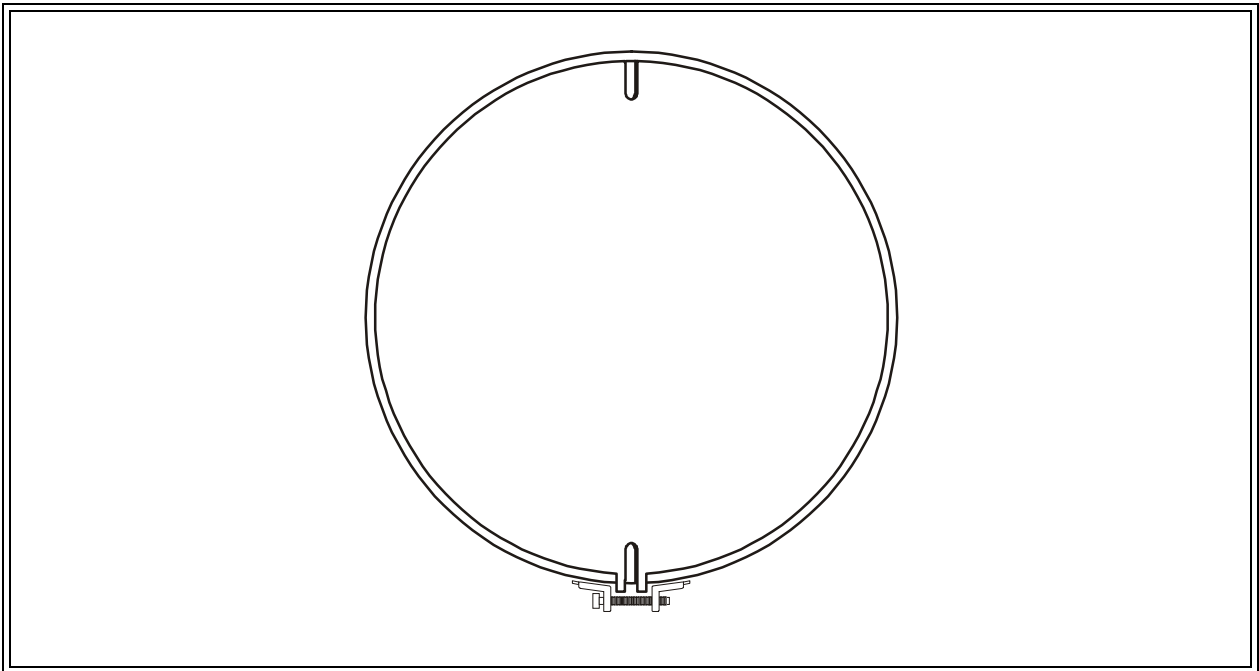

Figure 4-17 Typical Radome Panel Rotation
- 37 Ensure that the radome drain and lock nut are oriented downward for proper drainage (refer to Figure 4-17). When finished, fasten the locking nut(s).
- 66** Radome Panel Rotation -- The drain groove of the Radome should be pointed downward for drainage (refer to Figure 4-17). When finished, fasten the locking nut.